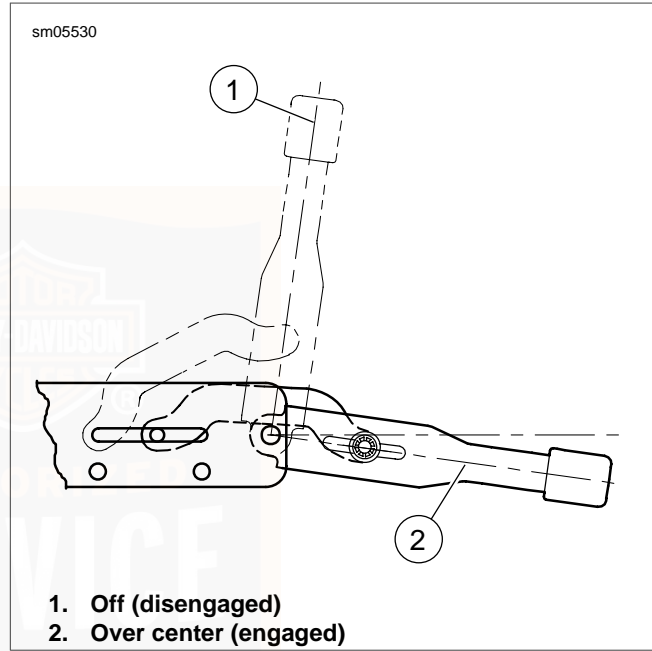

Figure 12. Park Brake Positions
4. See Figure 12. Push parking brake lever to the forward position (2) with right hand.
2. See Figure 12. With right hand, pull parking brake lever to the upright position (1). The rear brake pedal will decrease pressure as the parking brake disengages.